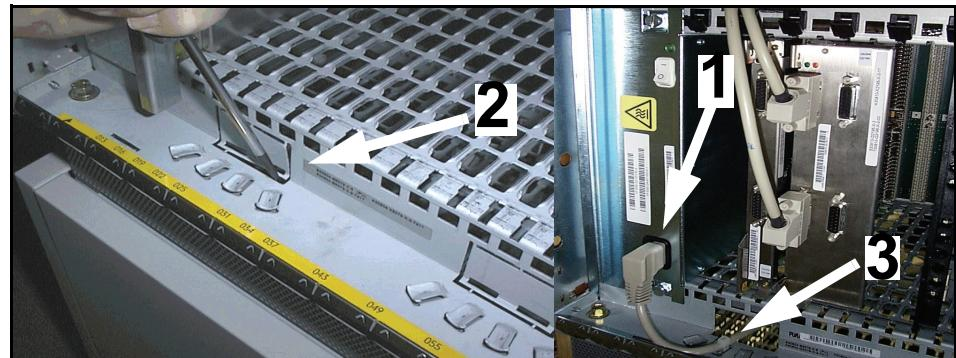

Figure 9 HiPath 4000 AC installation
3. Route the power cables (1) downwards through the frame's metal knock-out (2) (see Figure 9) to the base unit assembly (BUA) under the CSPCI shelf.